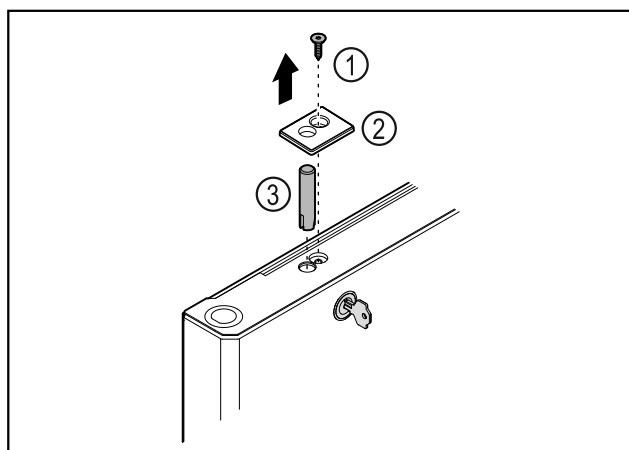

Fig. 42
- Remove the screw *Fig. 42 (1)*.
- Unlatch the cover *Fig. 42 (2)* with a small screwdriver and remove it.
- Pull out the lock bolt *Fig. 42 (3)*.